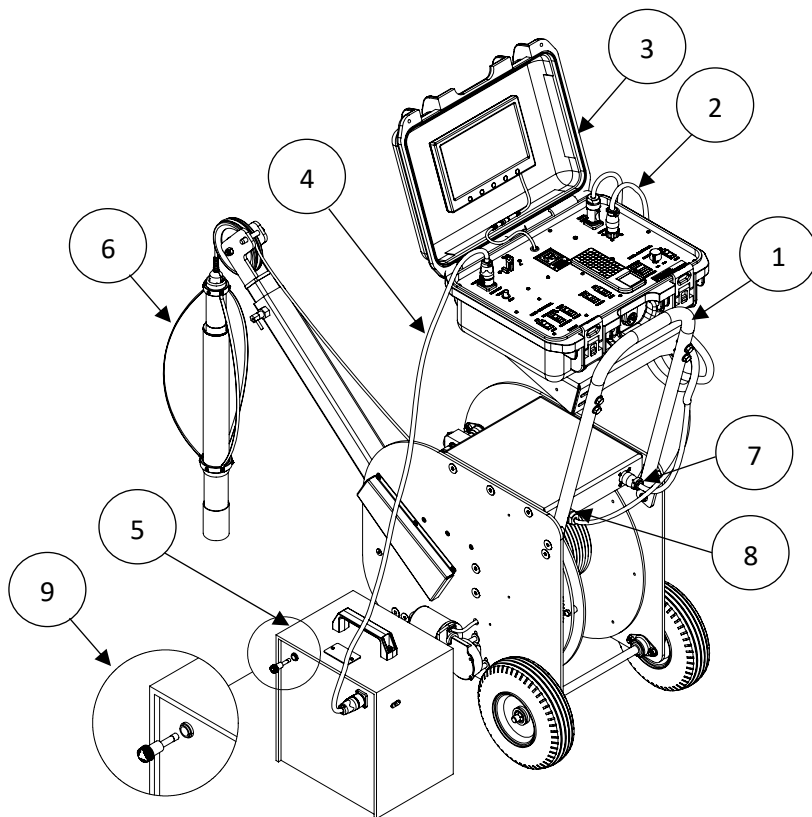
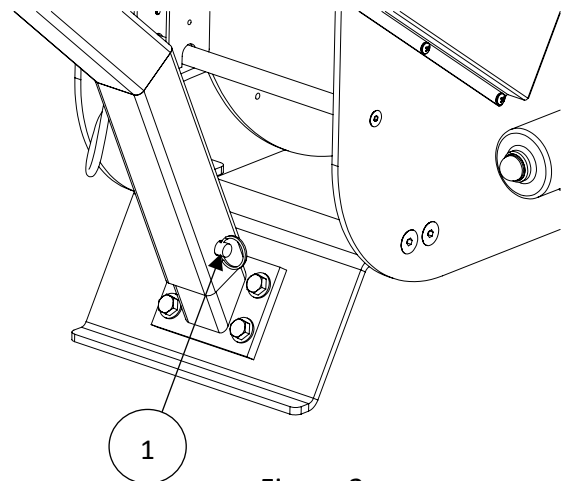
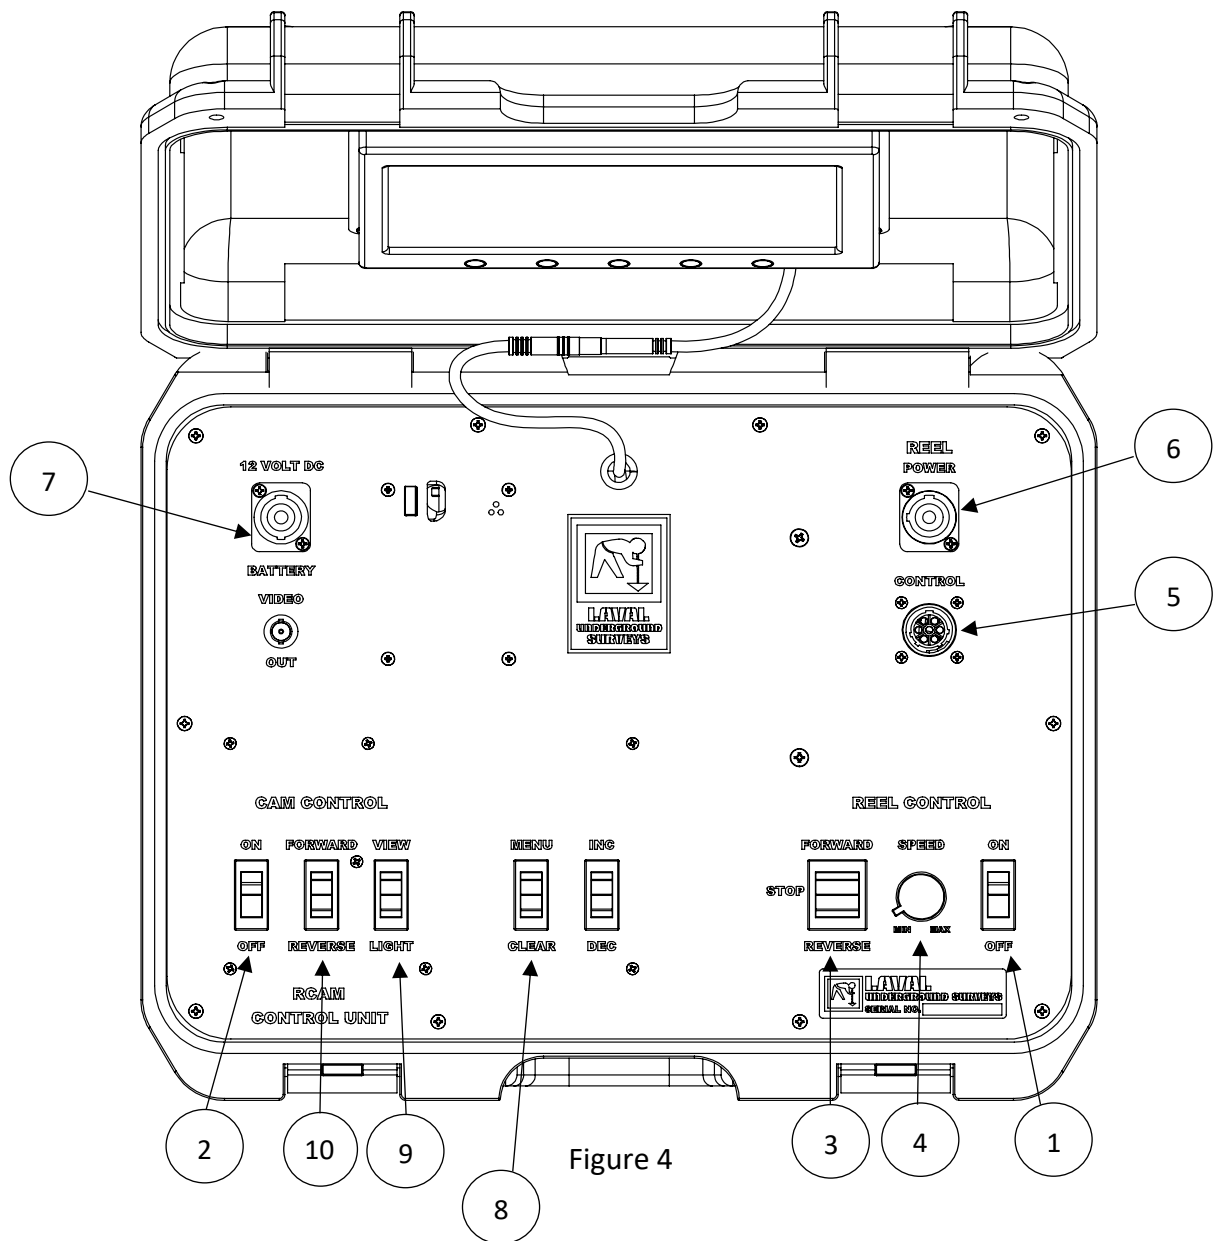

Figure 1
Figure 2
Figure 4
1. Remove the 12V Battery Pack (Figure 1 Item 5) and insert the Battery Fuse and Cap into the Fuse Holder (Figure 1 Item 9) on the battery pack.
3. Unpack the Reel Assembly (Figure 1 Item 1). To reposition the Boom Arm: remove the locking pin at the base of the Boom Arm (Figure 2 Item 1), rotate the Boom Arm 180 degrees, place the Boom Arm back on the base, and replace the locking pin.
5. Ensure the REEL CONTROL Power (Figure 4 Item 1) and CAM CONTROL Power (Figure 4 Item 2) Switches are in the OFF Position.
6. Position the Reel Control FORWARD-STOP-REVERSE Switch (Figure 4 Item 3) to STOP and the SPEED Control Dial (Figure 4 Item 4) to MIN.
7. Connect the Reel Control and Power Cable (Figure 1 Item 2) from the Reel Assembly (Figure 1 Item 7 & 8) to the REEL CONTROL (Figure 4 Item 5) and REEL POWER (Figure 4 Items 6) Connectors on the Control Unit (Figure 1 Item 3). Connect the
Power Cable (Figure 1 Item 4) from the Control Unit 12 VDC input (Figure 4 Item 7) to the 12 VDC Battery (Figure 1 Item 5).
1. Turn the SPEED Dial (Figure 4 Item 4) all the way to MIN.
2. Place the REEL CONTROL Power Switch on the Control Unit in the ON position (Figure 4 Item 1).
3. Flip the Reel Control FORWARD-STOP-REVERSE Switch (Figure 4 Item 3) to the FORWARD position and turn the SPEED Dial (Figure 4 Item 4) slowly towards the MAX.
4. Run out enough cable so that the Camera (Figure 1 Item 6) when connected is centered above the hole.
5. Position the REEL CONTROL Power Switch to OFF (Figure 4 Item 1).
1. Position the CAM CONTROL Switch (Figure 4 Item 2) and REEL CONTROL Power Switch (Figure 4 Item 1), on the Control Unit, to ON.
2. Turn on the LCD Monitor. While watching the Monitor to verify operation Switch between side and down view and adjust light intensity, with the VIEW-LIGHT Switch (Figure 4 Item 9). The LED lighting should light up with the view selected. The light intensity of the view selected can be changed by pressing LIGHT; this will cycle through 5 light intensity levels. Check the rotation by using the Cam Control FORWARD-REVERSE Switch (Figure 4 Item 10); both the Down View and Side Views will rotate.
3. Rewind any excess cable by using the Reel Control functions (Figure 4 Items 1, 3 and 4) to position the Camera in the well, near the top. Press the Menu Function CLEAR Switch (Figure 4 Item 8) to reset depth counter to zero (0000.00ft).
2. **DO NOT** connect or disconnect the Camera with the Control Unit CAM CONTROL **ON-OFF** Switch **ON** (Figure 4 Item 2).
5. **CAUTION** Before connecting Power to the Control Unit be sure the REEL CONTROL Power ON-OFF Switch is OFF (Figure 4 Item 1), CAM CONTROL ON-OFF Switch is OFF (Figure 4 Item 2), SPEED Control is set to MIN (Figure 4 Item 4), and FORWARD-STOP-REVERSE Switch is at the STOP or center position (Figure 4 Item 3).
A 12V DC battery (Figure 1 Item 5) housed in a black box with a lifting handle and an external battery charger are provided with the system. An LCD voltmeter with protective cover is located on top of the housing.